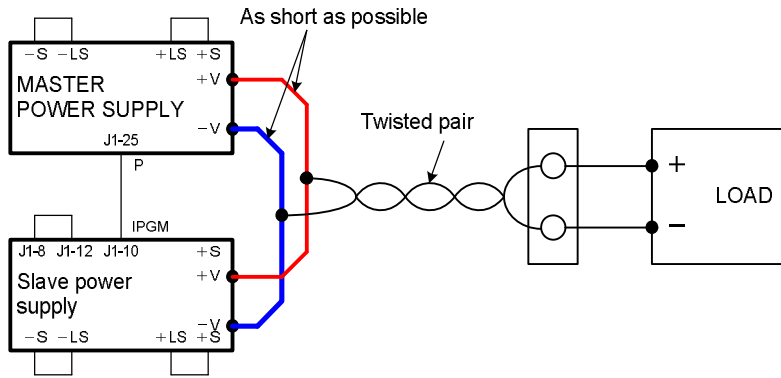
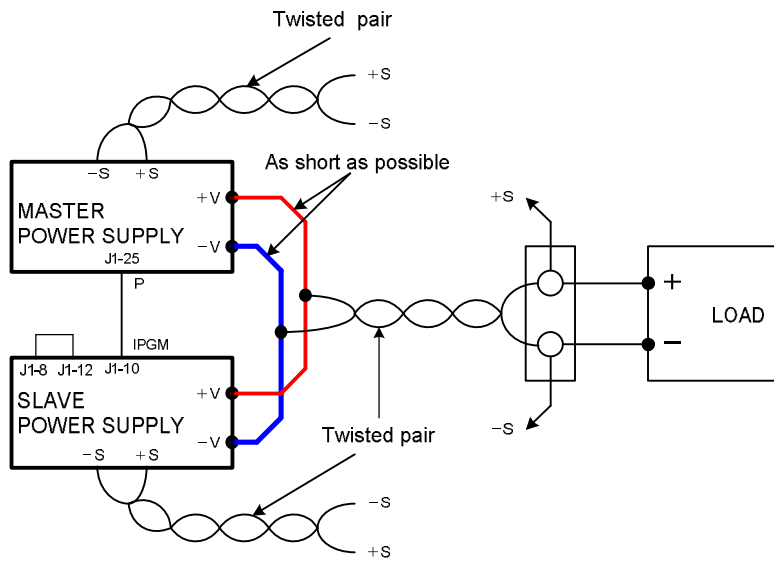

Fig.4-4: Parallel connection with local sensing
Fig.4-5: Parallel operation with Remote sensing
Set the master unit output voltage to the desired voltage. Program the current limit to the desired load current limit divided by the number of parallel units. During operation, the master unit operates in CV mode, regulating the load voltage at the programmed output voltage. Connect the sensing circuit to local or remote sensing as shown in Fig.4-4 or Fig.4-5.
- ◆ Refer to Fig.4-4 and 4-5 for typical connections of parallel power supplies. The figures show connection of two units, however the same connection method applies up to 4 units.